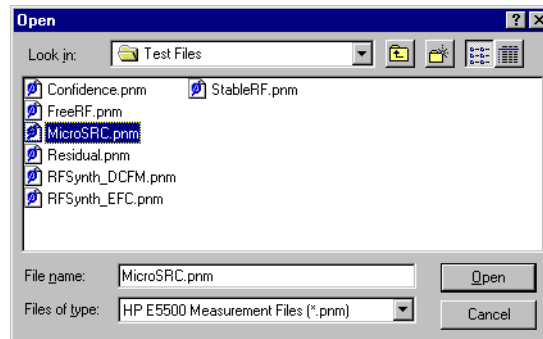

Figure 7-45 Select the Parameters Definition File
- 3 In the **File Name** box, choose “**MicroSRC.pnm**”. See Figure 7-45.